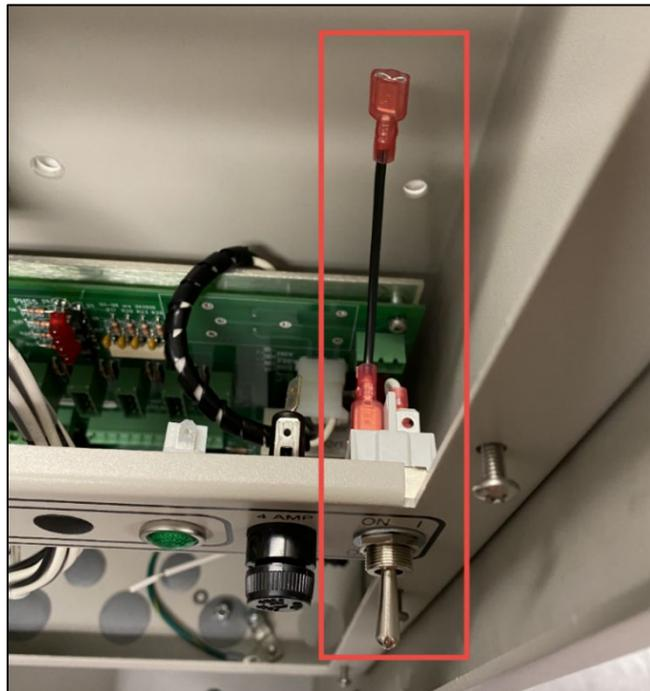

Figure 7 Inserting the New Switch
1. Insert the switch from the backside with the switch notch facing down and short black wire on top (Figure 7).